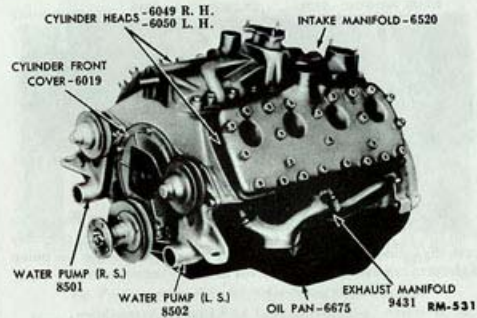
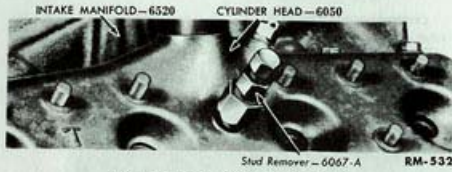

Fig. 4—Engine, Stripped
Fig. 5—Removing Cylinder Head Stud
i. **Remove Intake Manifold.** Remove the cap screws that hold the intake manifold to the cylinder block, and remove the intake manifold (fig. 4).
a. **Remove Cylinder Heads.** Remove the nuts from each cylinder head, and remove each cylinder head and gasket from the cylinder block (fig. 4). To remove cylinder heads that have become corroded to the studs, remove the studs that are corroded, using a stud puller that does not injure the threads on the studs (fig. 5).
b. **Remove Cylinder Front Cover.** Remove the cap screws that hold the cylinder front cover to the cylinder block, and remove the front cover from the cylinder block (fig. 4).
c. **Remove Exhaust Manifolds.** Remove the cap screws that hold each exhaust manifold to the cylinder block and remove the two manifolds (fig. 4).